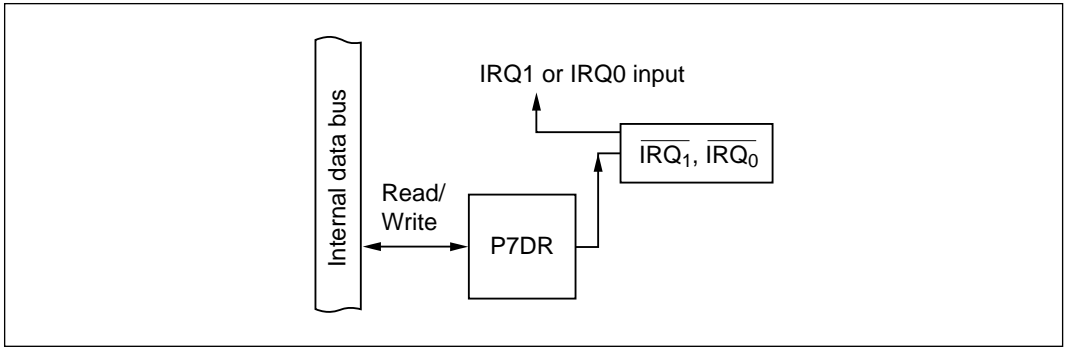

Figure 9-46 $\overline{\text{IRQ}}_1$ or $\overline{\text{IRQ}}_0$ Input Combined with General-Purpose Output (Modes 1 to 7)
(3) **$\overline{\text{IRQ}}_1$ or $\overline{\text{IRQ}}_0$ Input Combined with General-Purpose Output (P7_1 , P7_0 : Modes 1 to 7):** Figure 9-46 shows a block diagram illustrating the $\overline{\text{IRQ}}_1$ and $\overline{\text{IRQ}}_0$ input function when combined with general-purpose output. Table 9-36 indicates register read/write data. When P7_1 and P7_0 are used for $\overline{\text{IRQ}}_1$ and $\overline{\text{IRQ}}_0$ input they can also function as general-purpose output ports. If the general-purpose output function is used, however, output of a falling edge will cause an interrupt.